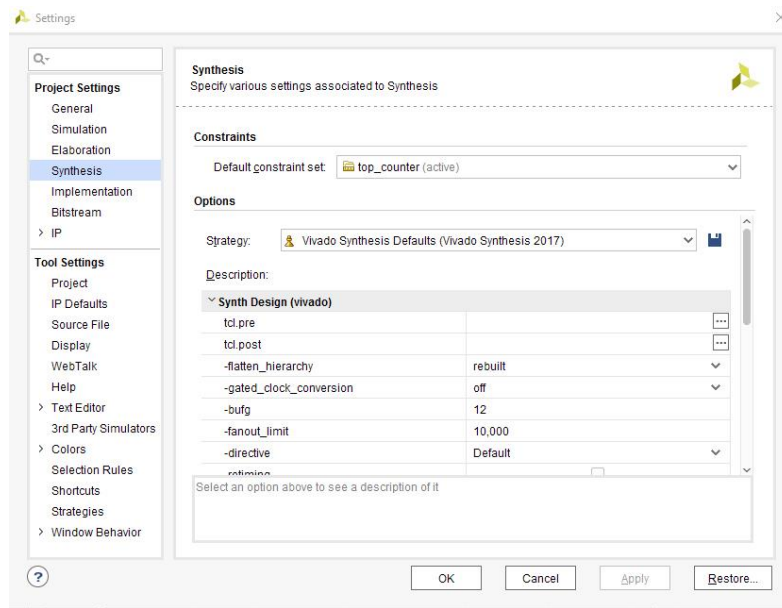

Figure 51
2. Check only that in the **Synthesis Settings**, accessible in the **Flow Navigator** window, in the **Project Manager** section, **Settings → Project Settings → Synthesis**, the **Default constraint set:** active is the **top_counter**, to be sure that the new constraint set defined for the **top_counter** design is the one the tool is going to use in the implementation (Figure 51)